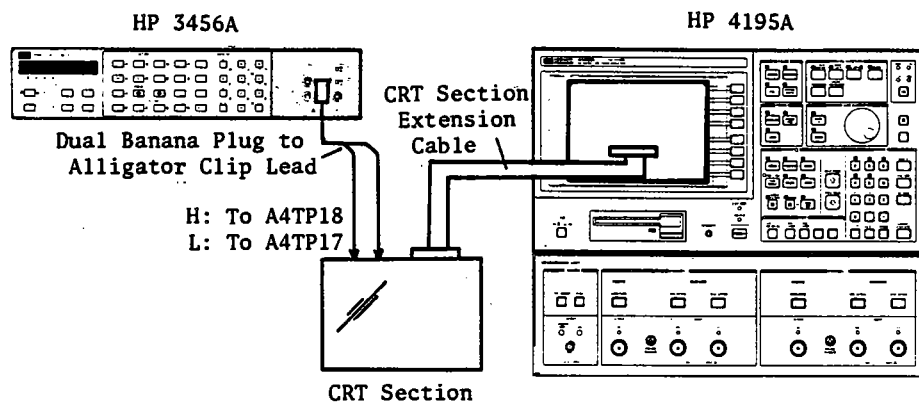
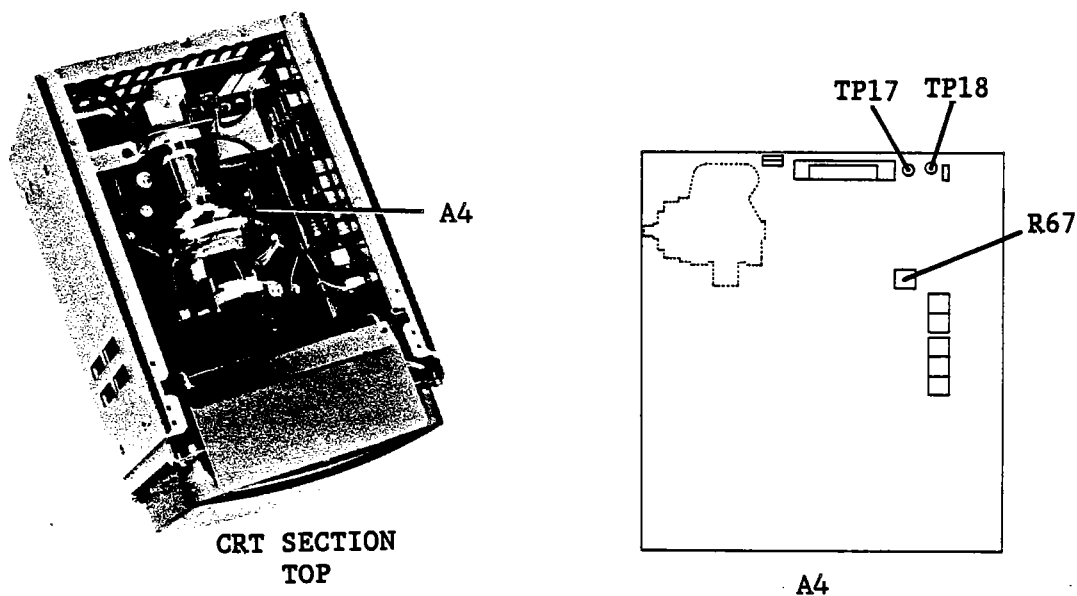

Figure 3-13. Local Voltage Regulator Adjustment Setup
Figure 3-14. Local Voltage Regulator Adjustment Locations
1. Connect the equipment as shown in Figure 3-13. See Figure 3-14 for the location of A4TP17 and A4TP18.